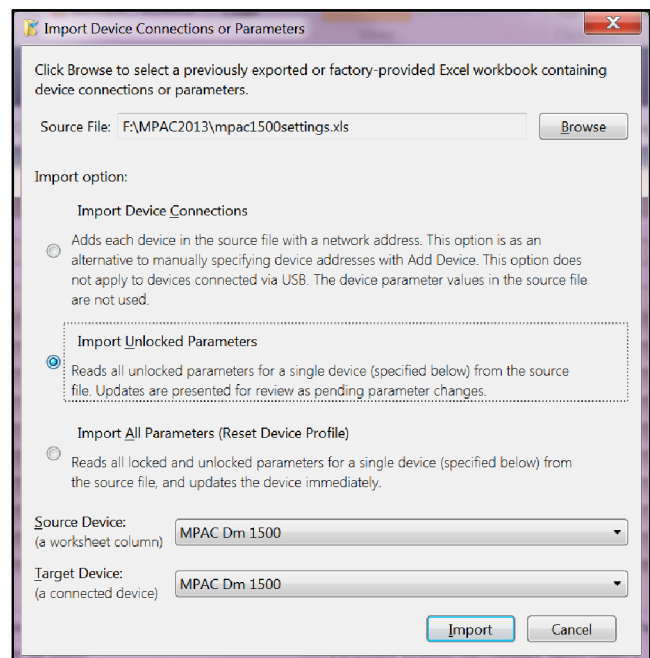
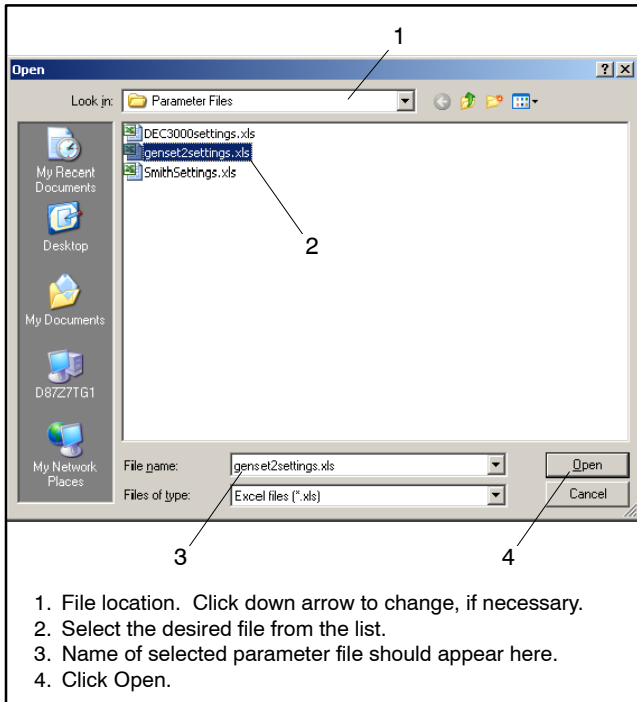

Figure 3-7 Import Parameters Window
Figure 3-8 Open Dialog Box for File Import
The parameter file can contain settings for more than one device. Select the device you want to use as the source device and then select the target device. SiteTech may select the connected device as the target device for you. See Figure 3-7 and Figure 3-8.
2. Click on Import. A dialog window will open. See Figure 3-7.
3. Click on the Browse button. A window will open. See Figure 3-8.
7. The selected file now appears in the Source File box. See Figure 3-7.
8. Click on Import Unlocked Parameters. See Figure 3-7.
10. Click the Import button to load the new parameters onto the controller. See Figure 3-7.